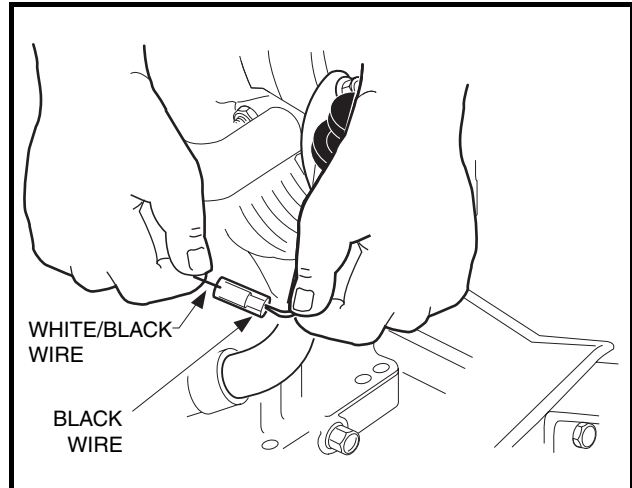

Figure 16-45 Ignition Kill Wire
19. Route the engine kill switch wire (18-gauge white/black) through the same retainers that hold the accelerator cable. Connect the wire to the bullet connector at the lower right front of the engine (**Figure 16-45, Page 16-19**).